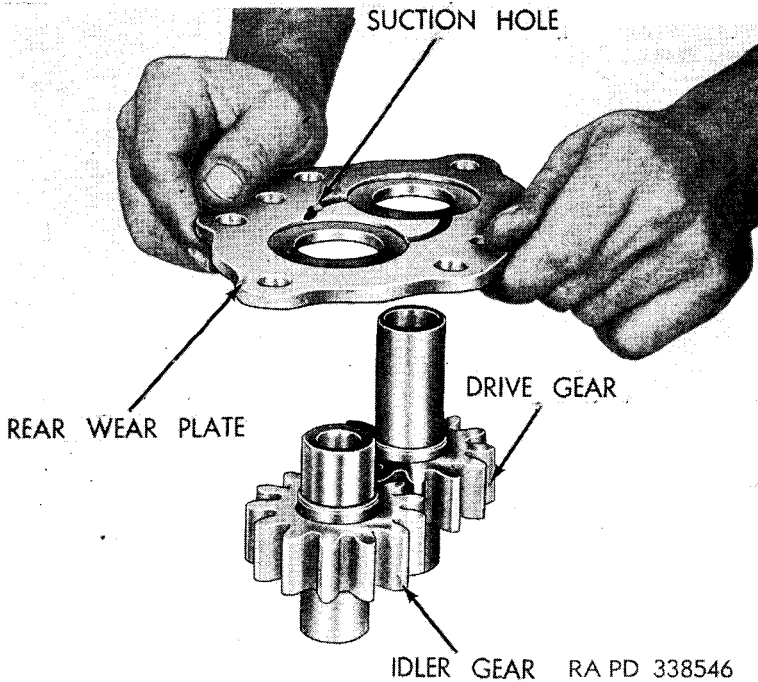

Figure 70. Installing rear wear plate on gears.
b. INSTALL REAR WEAR PLATE AND BEARINGS ON GEARS. Place the drive gear and idler gear on the work bench with the drive gear nearest you and with the driving end of the gear shaft pointing up. Apply a light, even film of sealing compound on both sides of the rear wear plate. Place the wear plate over the shafts and gears with the smooth side toward the gears and the small suction hole on the right-hand side of the assembly (fig. 70). Place a bearing over the driving gear shaft and press into position.